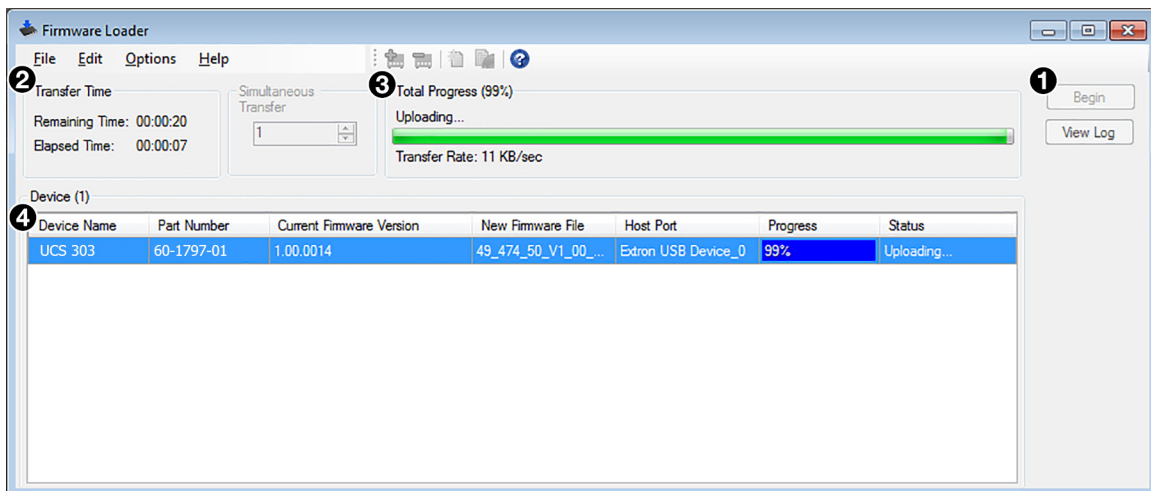

Figure 25. Firmware Upload in Progress
7. In the Firmware Loader dialog box, click **Begin** (see figure 25, ①).